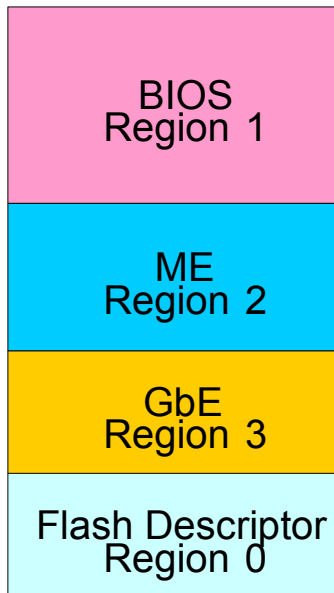

Figure 1. LAN NVM Regions
The LAN NVM shares space on an SPI Flash device (or devices) along with the BIOS, Manageability Firmware, and a Flash Descriptor Region. It is programmed through the ICH8/ICH9. This combined image is shown in Figure 1. The Flash Descriptor Region is used to define vendor specific information and the location, allocated space, and read and write permissions for each region. The Manageability (ME) Region contains the code and configuration data for ME functions such as Intel® Active Management Technology, ASF, and Advanced Fan Speed Control. The system BIOS is contained in the BIOS Region. The ME Region and BIOS Region are beyond the scope of this document and a more detailed explanation of these areas can be found in the *Intel® I/O Controller Hub 8 (ICH8) Family External Design Specification (ICH8 EDS)* and the *Intel® I/O Controller Hub 9 (ICH9) Family External Design Specification (ICH9 EDS)*. This document describes the LAN image contained in the Gigabit Ethernet (GbE) region. Fast Ethernet (**82562V**) images are also described.